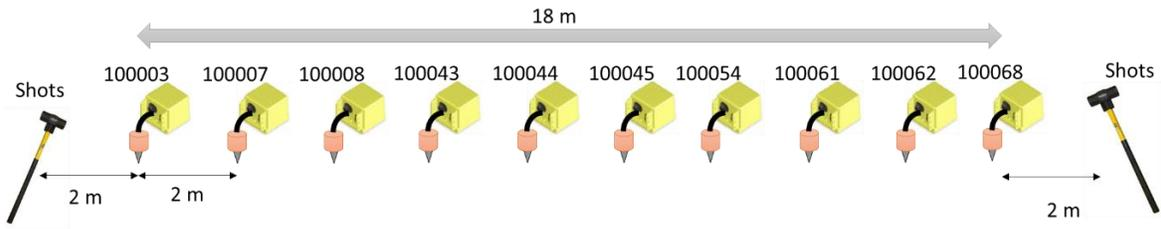

Figure 21.2 Linear array of 10 receivers with 2 m spacings
2. Linear array of 10 receivers with 2 m spacings recording active sledge hammer data (Figure 21.2).